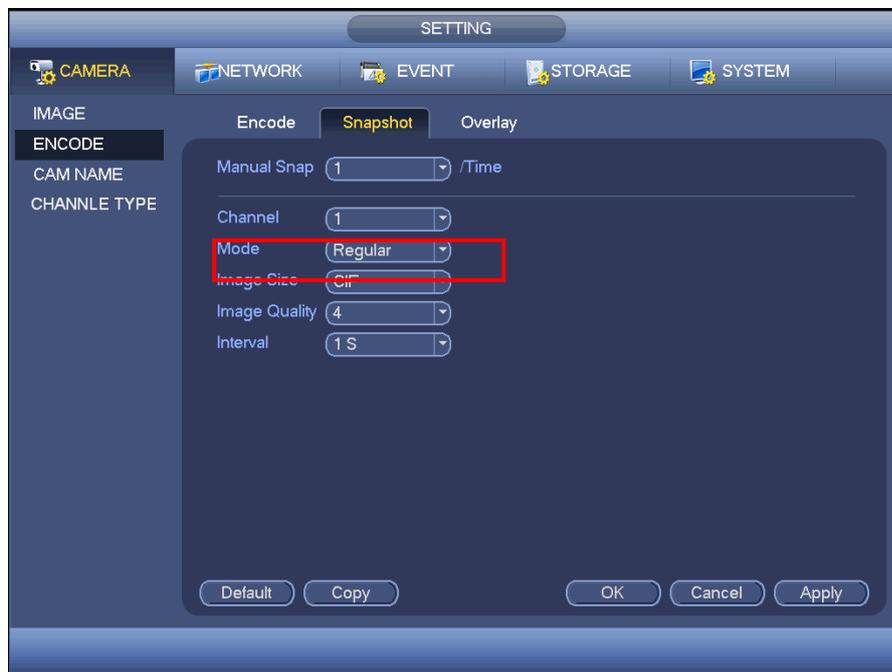

Figure 4-143
- In main menu, from Setting->Camera->Encode->Snapshot interface, here you can input snapshot mode as regular, size, quality and frequency. See Figure 4-143.